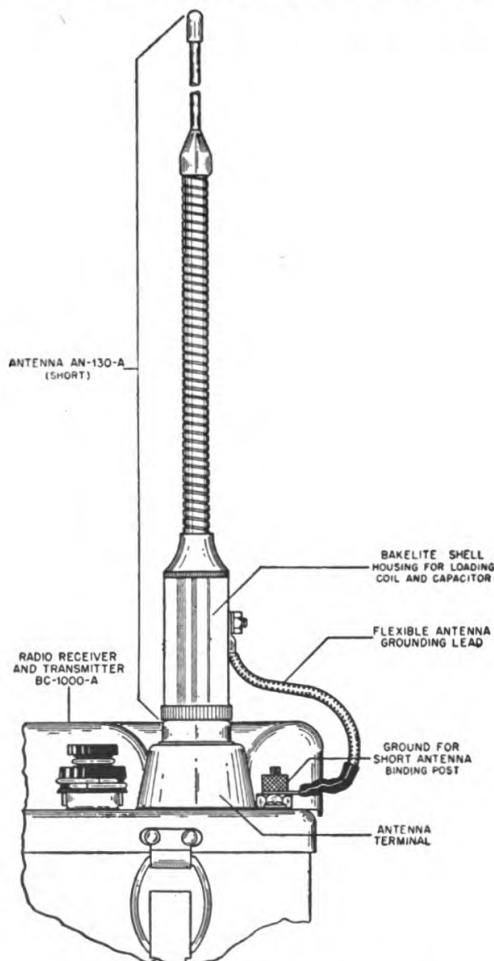

Figure 6. Antenna AN-130-A,
A bakelite shell at the base of the antenna houses a loading circuit for resonating the short antenna to Radio Receiver and Transmitter BC-1000-A. The flexible lead with spade lug attached to the bakelite shell must be connected to the binding post marked GROUND FOR SHORT ANTENNA (see Figure 6) of Radio Receiver and Transmitter Chassis BC-1000-A to complete the antenna resonating circuit. A threaded stud is provided at the base of the antenna to attach it to the antenna terminal of the set.
(1) *Antenna AN-130-A.* Fit the upper section into the lower. Next, screw the assembled antenna into the antenna terminal of the set. (See Figure 6.) Approximately five turns are required to screw the antenna into the terminal; *Don't force it.* Connect the spade lug of the flexible antenna ground lead to the GROUND FOR SHORT ANTENNA terminal on the set front panel. *This ground connection is essential for proper operation.*